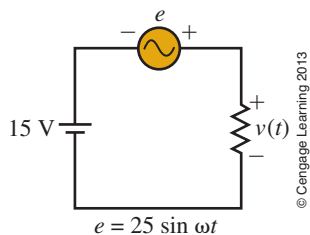

FIGURE 15-90
51. For the circuit of Figure 15-90, $e = 25 \sin \omega t$ V and period $T = 120$ ms.